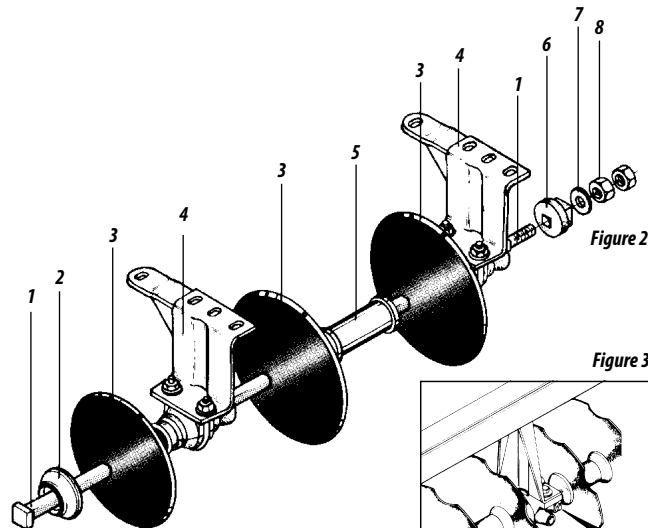

Figure 2
- 04 - Put on the axle (1) the washer (Fig.2).
- 05 - First, put a disc (3), a roller bearing (4), another disc (3), a splitting spool (5), according to figure 2.
- 06 - When the set is finished (complete) with all the elements (discs, roller bearings, and splitting spools) put a convex washer (6), a flat washer (7) and finally put the nut and the conewasher (8), tightening all the set according to figure 2.
- 07 - Next, underset the disc sets firmly, and tighten all the nuts (8).